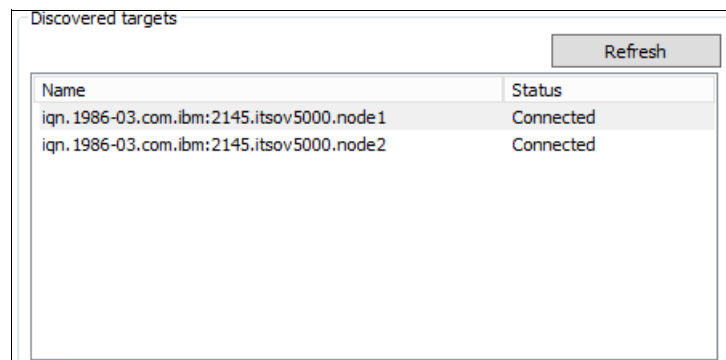

Figure 5-47 Discovered iSCSI targets
5. In the iSCSI Initiator properties, the connected ports should now be listed under **Discovered targets**, as shown in Figure 5-47.